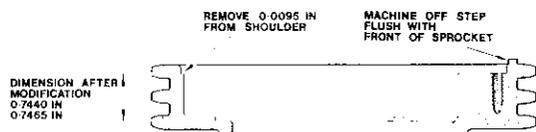

Fig. 1. Shock Absorber Modifications.
- (1) Ensure that no casting marks or numbers are standing proud in the shock absorber which could restrict the paddle movement.
- (2) Measure the depth of the spider location (see Fig. 1). Later shock absorbers have a dimension of 0.7560/0.7535 in. This depth need not be modified. If the shock absorber is not within these dimensions, it is an early type and must be modified by removing 0.0095 in. from the shoulder (see Fig. 1). This ensures that the spider end float is controlled to within a 0.001/0.0054 in. tolerance.
- (3) Several early shock absorbers have a lip on the front face (see Fig. 1). This serves no useful purpose and does not allow the use of service tool 61-6105 to check sprocket alignment without necessitating certain compensations. It is either necessary to
Two types of shock absorber body have been used. The early type has a shoulder on the front face, whereas the later type does not (see Fig. 1). When checking alignment with service tool 61-6105 on the shouldered sprocket the additional thickness of the lip must be taken into consideration either by machining as described in "Shock Absorber Modification" or by measuring the shoulder